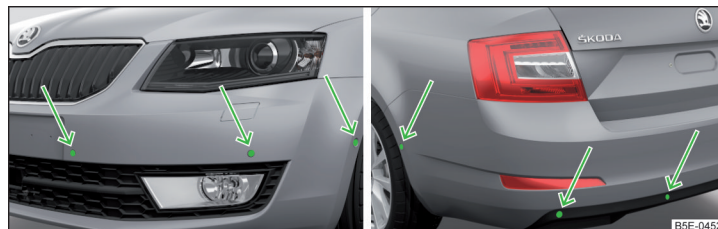

Fig. 139 Fitting the ultrasonic sensors: front/rear
The system uses ultrasound waves to calculate the distance between the bumper and an obstacle. Depending on the vehicle equipment, the ultrasonic sensors are located in the back or in the front bumper » Fig. 139 on page 141. ▶
- Keep the system sensors » Fig. 139 on page 141 clean, and free from snow and ice, and do not cover with any objects of any kind, otherwise the system functioning may be limited.